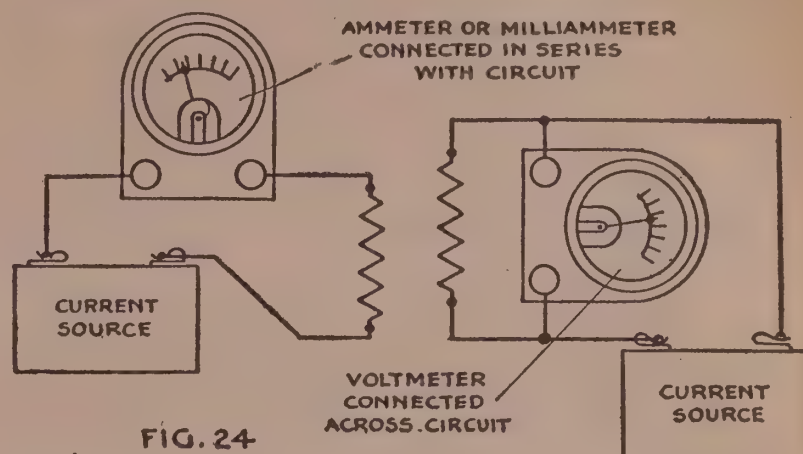

FIG. 24
**The Voltmeter:** Like the ammeter, the voltmeter also is an adaptation of the milliammeter (see Figs. 24 and 25). However, instead of a shunt, a series resistance is used to make the conversion. For example, a 0 to 1 voltmeter is nothing more than a standard 0 to 1 milliammeter having a 1,000-ohm series resistor connected to it while a 0 to 10 voltmeter has a 10,000-ohm series resistance, and a 0 to 100 voltmeter